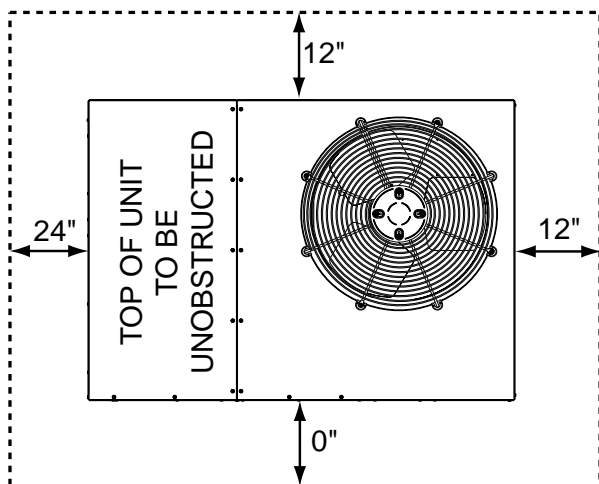

Figure 1. Minimum Unit Clearances
- Sufficient clearance for unobstructed airflow through the outdoor coil must be maintained in order to achieve rated performance. See Figure 1 for minimum clearances to obstructions.
Minimum clearances MUST be maintained from adjacent structures to provide room for proper servicing and air circulation. DO NOT install unit in a confined or recessed area that will allow discharge air from the unit to re-circulate into the condenser air inlet, through the coil. See Figure 1.